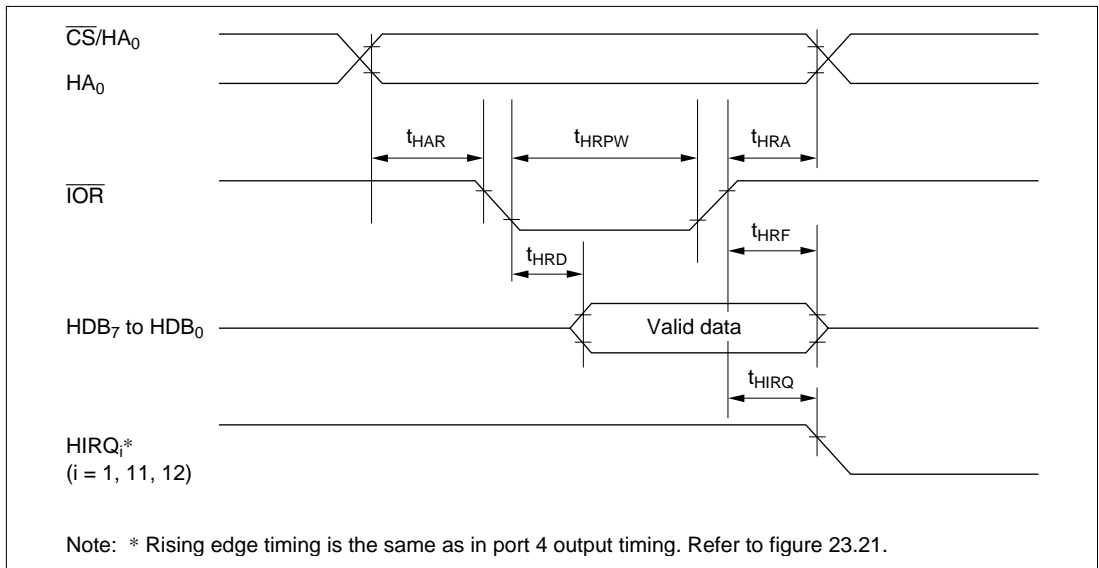

Figure 23.22 Host Interface Read Timing
23.5.8 Host Interface Timing	Figures 23.22 and 23.23